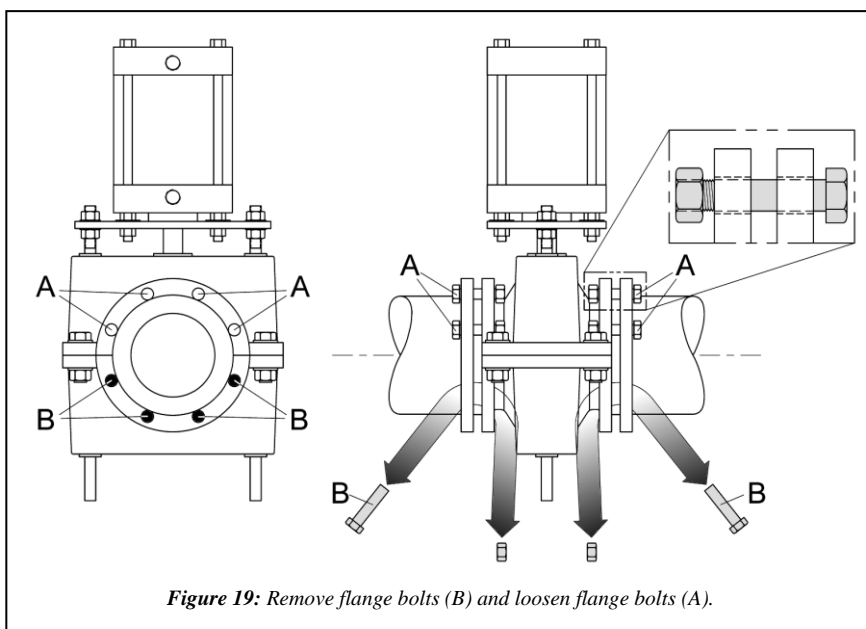

Figure 19: Remove flange bolts (B) and loosen flange bolts (A).
STEP 2: Remove flange bolts (B) supporting the lower valve body (Fig. 19). Loosen, but do not remove, the flange bolts (A) supporting the upper valve body (Fig. 19).